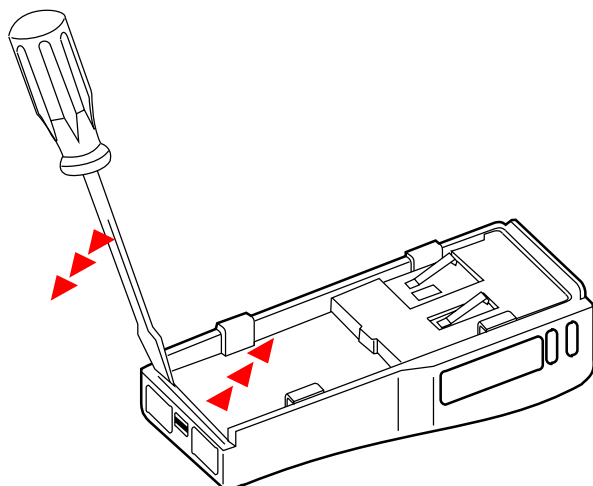

Figure 1-3. Remove Chassis
3. Carefully pry the chassis up on both sides, near the bottom, with a flat blade screwdriver (Figure 1-3).